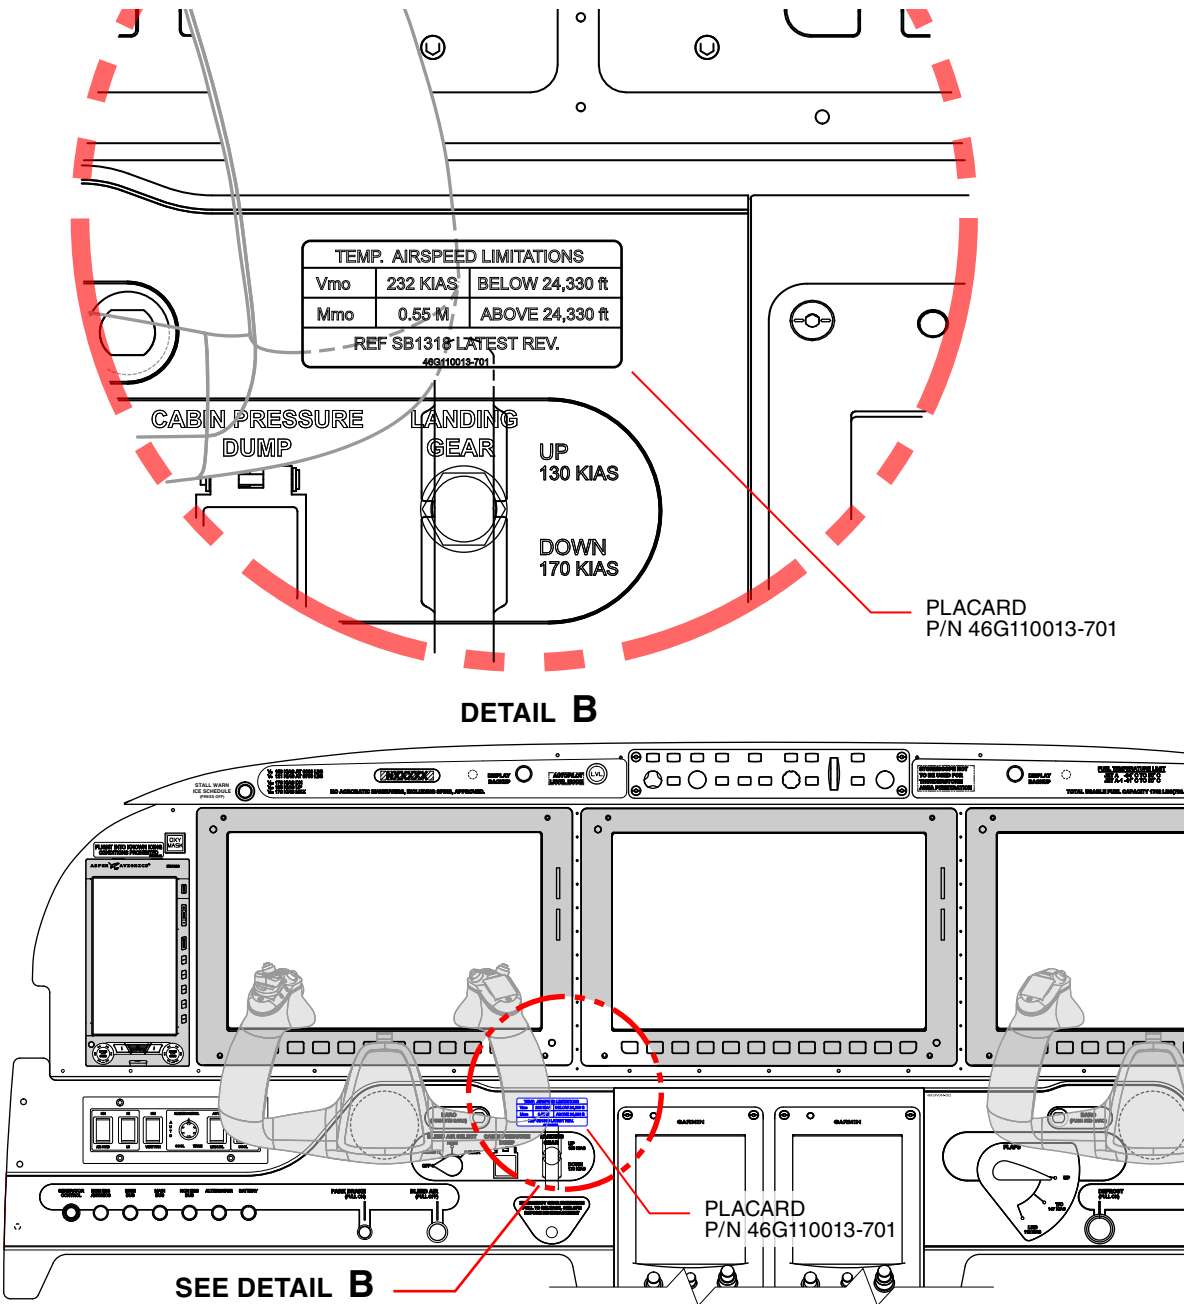

Figure 3
- b. Install the placard onto the cockpit instrument panel in the location shown in Figure 3.